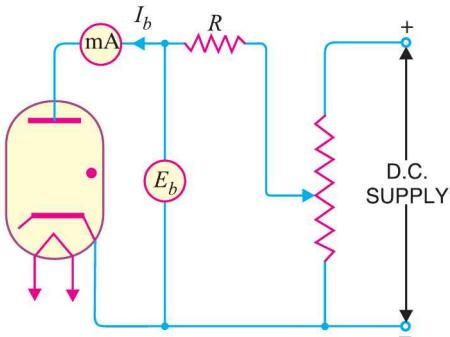
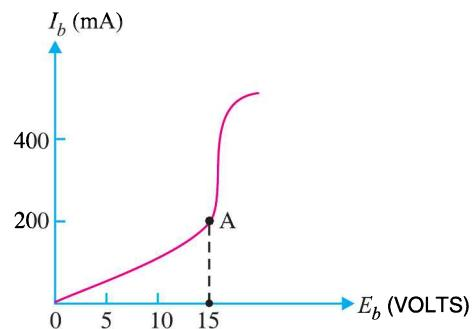

Fig. 3.10
Fig. 3.11
**Operation.** Fig. 3.10 shows a circuit that can be used to investigate the operation of a hot-cathode gas diode. When cathode is heated, a large number of electrons are emitted. At low anode-cathode voltage, the tube conducts very small current. Under such conditions, the gas is not ionised and the tube acts similar to a vacuum diode — the voltage across the tube increases with plate current. This action continues until anode-cathode voltage becomes equal to the ionisation potential of the gas. Once this potential is reached, the gas begins to ionise, creating free electrons and positive gas ions. The positive gas ions move towards the cathode and tend to neutralise the space charge, thus decreasing the internal resistance of the tube. If now the plate voltage is increased, the plate current also increases due to increased degree of ionisation. This further reduces the tube resistance. As a result, increase in plate current is offset by the decrease in tube resistance *and the voltage across the tube remains constant.* Therefore, in a hot-cathode gas diode, not only the internal drop within the
**Plate Characteristics.** Fig. 3.10 shows the circuit that can be used to determine the volt-ampere ( $E_b/I_b$ ) characteristics of a hot-cathode gas diode. The series resistance  $R$  is used to limit the current to reach a dangerously high value. Fig. 3.11 shows the plate characteristic of hot-cathode diode. It is clear that at first, plate current rises slowly with increase in anode-cathode voltage. However, at some voltage, known as ionisation voltage (point A), the plate current rises sharply and the voltage drop across the tube remains constant. The extra voltage is dropped across the series resistance  $R$ . Any attempt to raise the anode-cathode voltage above the ionising value is fruitless. Increasing the voltage  $E_b$  above point A results in higher plate current ( $I_b$ ) and large drop across  $R$  but the voltage  $E_b$  across the tube remains constant.